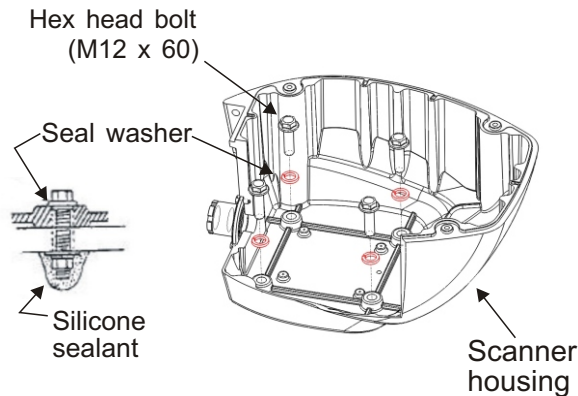

Figure 6-7 How to mount the antenna housing
4. Insert four M12 × 60 hex head bolts with the seal washers from inside the antenna housing, to prevent the bolts from contacting the transceiver module. Install the seal washer with the larger diameter next to the head of the bolt. Coat flat and spring washers and nuts and then use them to fasten the antenna housing to the mounting platform. Finally, coat exposed parts of nuts, bolts and Flat and spring washers as shown in Figure 6-7.